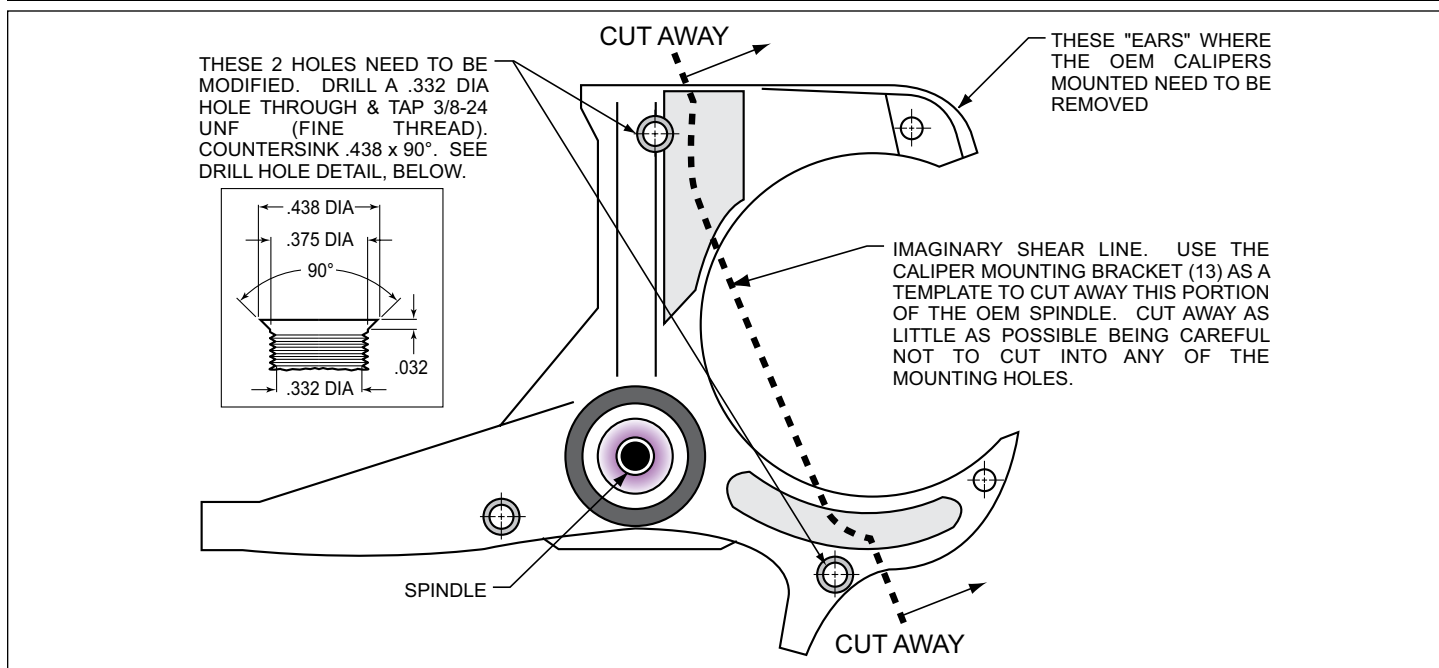

Figure 1. Steering Arm / Spindle Modifications
These modifications should be performed by a qualified machinist. Refer to Figure 1 on the following page as necessary (numbers in parenthesis refer to the parts list on page three). Only one view of the steering arm/spindle is shown, but the modifications need to be performed on both steering arm/spindles.
The two stock holes that will be used to mount the caliper mounting bracket (1) need to be modified (figure 1). Drill a .332 diameter hole through both holes, then tap 3/8-24 UNF (fine thread). Countersink the holes to .438 x 90°. The “ears” that protrude to form a “C” shape need to be removed to facilitate the installation of the Wilwood caliper. Using the caliper mounting bracket (13) as a template, mark two cut marks on the steering arm. Remove as little as necessary from the “C” shape, being careful not to cut away any of the mounting holes required to bolt on the caliper mounting bracket (1).